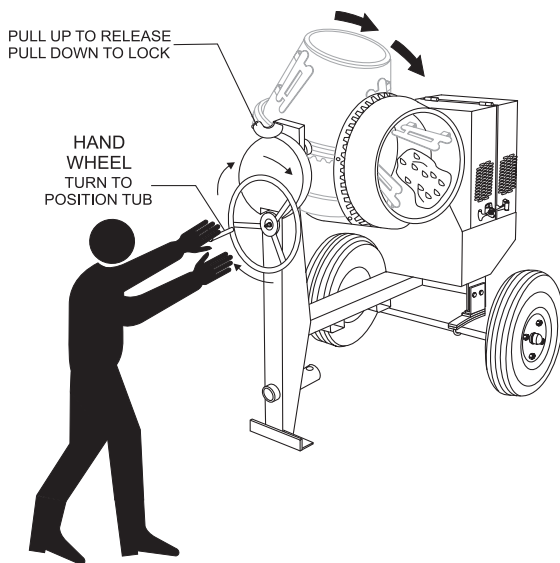

Figure 19. Mixing Drum Positioning
- To position the tub, make sure the mixer is placed on firm level ground, then **pull up** on the **dump latch** (Figure 19) and turn the **hand wheel** until the tub is at the desired position. Once the tub is at the desired position, **pull down** on the dump latch to lock the tub in position.